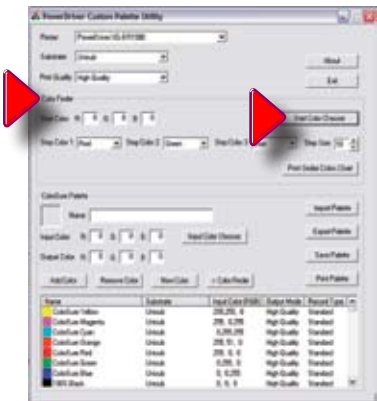

Figure 2
- First, make sure you select **PowerDriver XG-8**, then your desired **Substrate & Output. (High Speed or High Quality)** This activates the “**PowerDriver Custom Palette Utility**” Screen. (Figure 2)